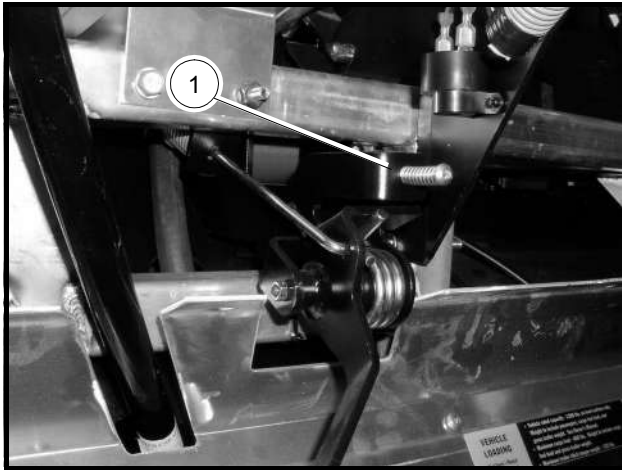

Figure 13a-25 High-speed Adjustment Screw
3. Adjust the high-speed adjustment screw (1) until the tachometer displays 3825 ± 25 RPM (Figure 13a-25, Page 13a-26). **See following NOTE.**